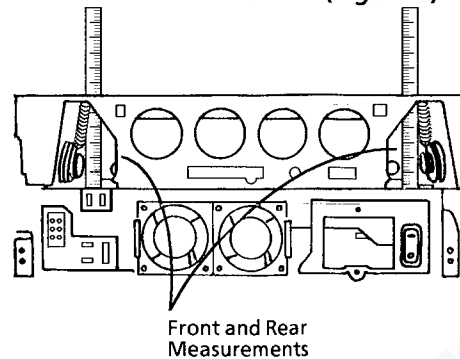

Figure 1. Checking the Measurements
3. Check that the measurement from the bottom of the Half Rate Carriage to the base of the optics housing is the same at the front and at the rear (Figure 1).